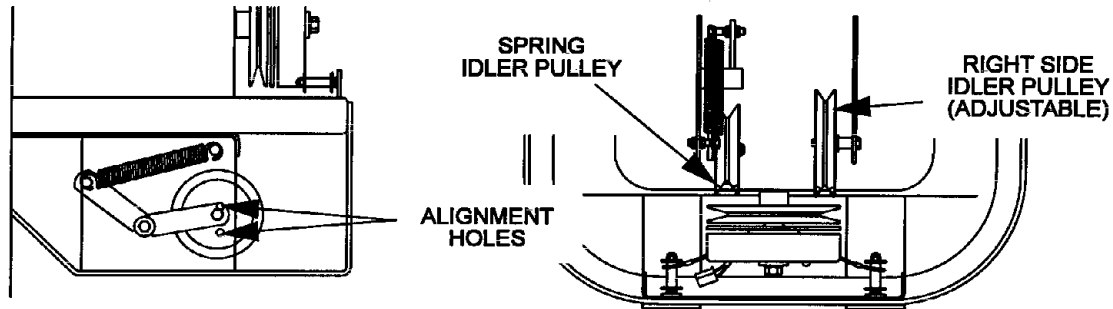

FIG. 8
- b) Check to make sure the bolt in the center of the spring loaded pulley, on left side engine deck support, is positioned in between the two alignment holes in the left support plate (See Fig 8).